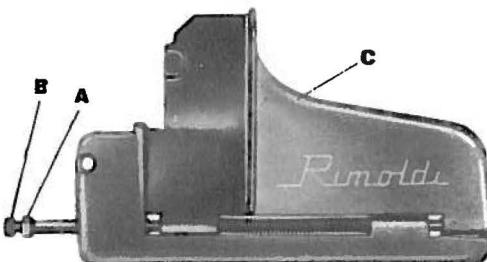

fig. 17
### f) Setting of front cover plate (fig. 17)
- Setting of the front cover plate C (fig. 17) is done with the cover plate closed.
- loosen screw F (fig. 17)
- push upper knife-holder block A (fig. 17) to right or left in order to obtain the required width of seam
- tighten screw F (fig. 17)